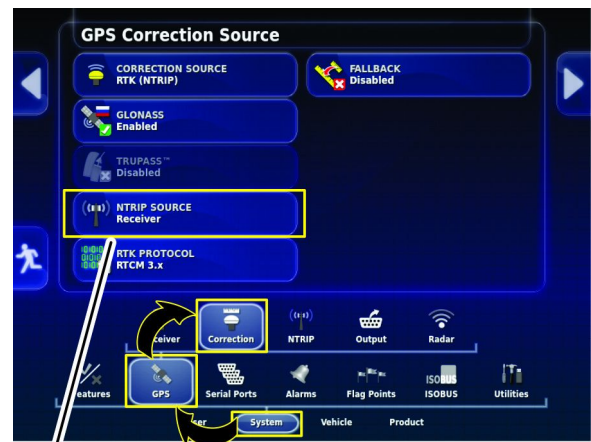

Figure 114
4. On the GPS Correction Source screen, press the NTRIP SOURCE icon (Figure 114).
3. On the setup screen, press the SYSTEM icon, the GPS icon, and the CORRECTION icon (Figure 114).